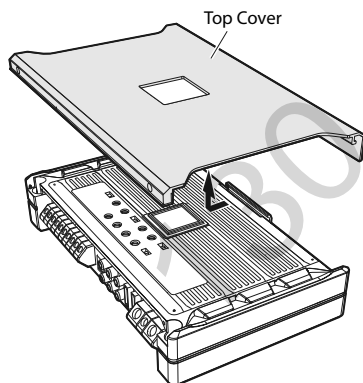

Fig. 2
2. Slide the Top Cover, and lift it to remove. (Fig. 2)